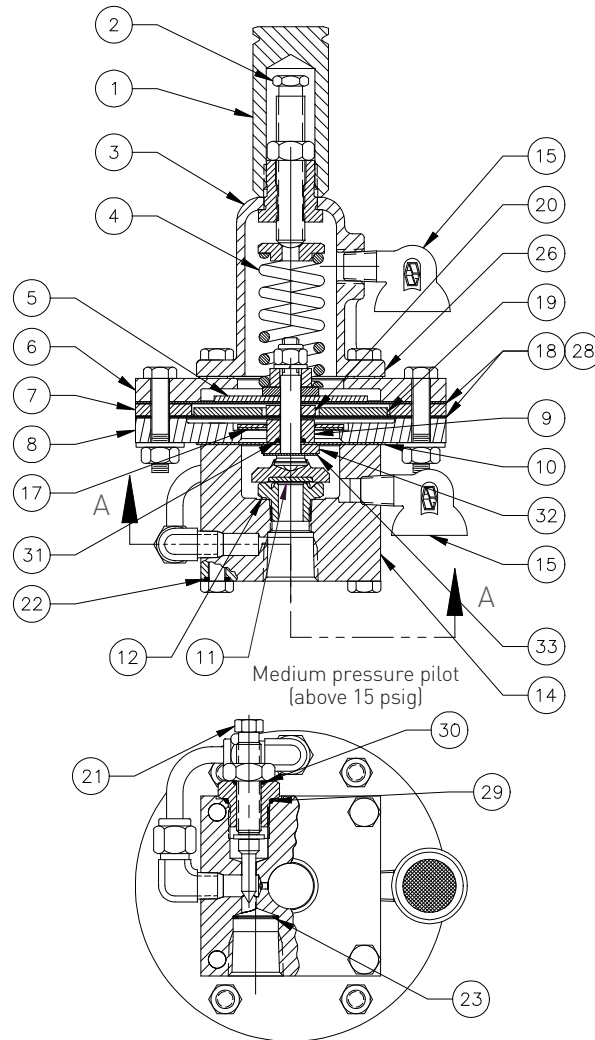

FIGURE 4
- 3.2.2 The holes in spindle diaphragm must be aligned with all holes in the body. The small hole in lower case must be aligned with hole in the body. Two of the six case bolts for the medium pressure pilot (Figure 4) must be assembled though holes in the lower case before it is attached to the body. After attachment there is insufficient clearance to do so.